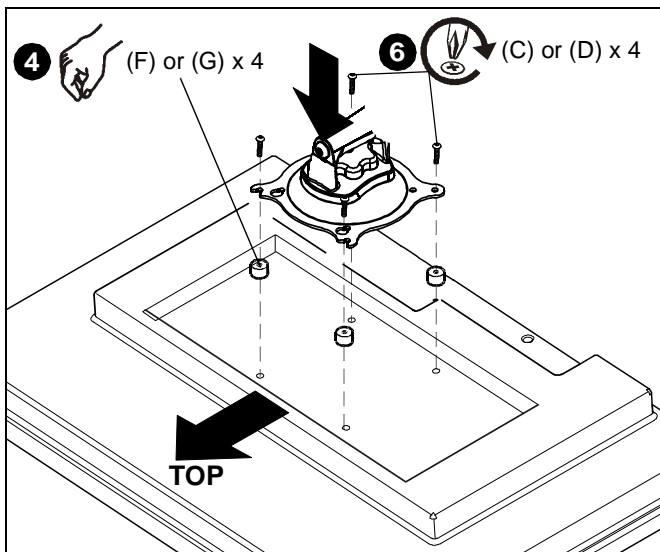

Figure 5
- Place the four (F or G) spacers over each mounting hole on the back of display. (See Figure 5)
- Orient mount so that mounting holes in the Centris Turntite head are aligned with the holes in the spacers (F or G). Rotate the Centris Turntite head as required (See Figure 5).
- Using Phillips screwdriver, install four Phillips screws (C or D) through the mounting holes in Centris Turntite head and the spacers (F or G), into display. (See Figure 5)